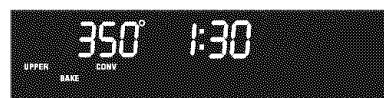

Figure 5
2. Press . "350" will appear, "UPPER", "BAKE" and "CONV" will flash in the display (Figure 5).